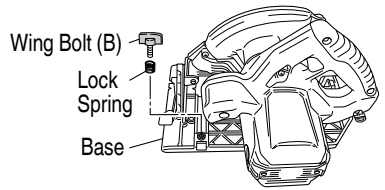

Fig. 10
3. Regulating the guide (Rip fence) (Fig. 10, 11)